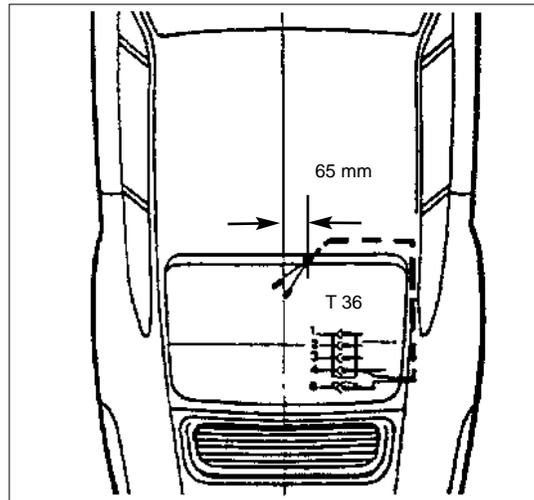

Figure 4
- Route the wiring harness under the headliner to connector "T 36" located under the speaker shelf cover (Figure 4).